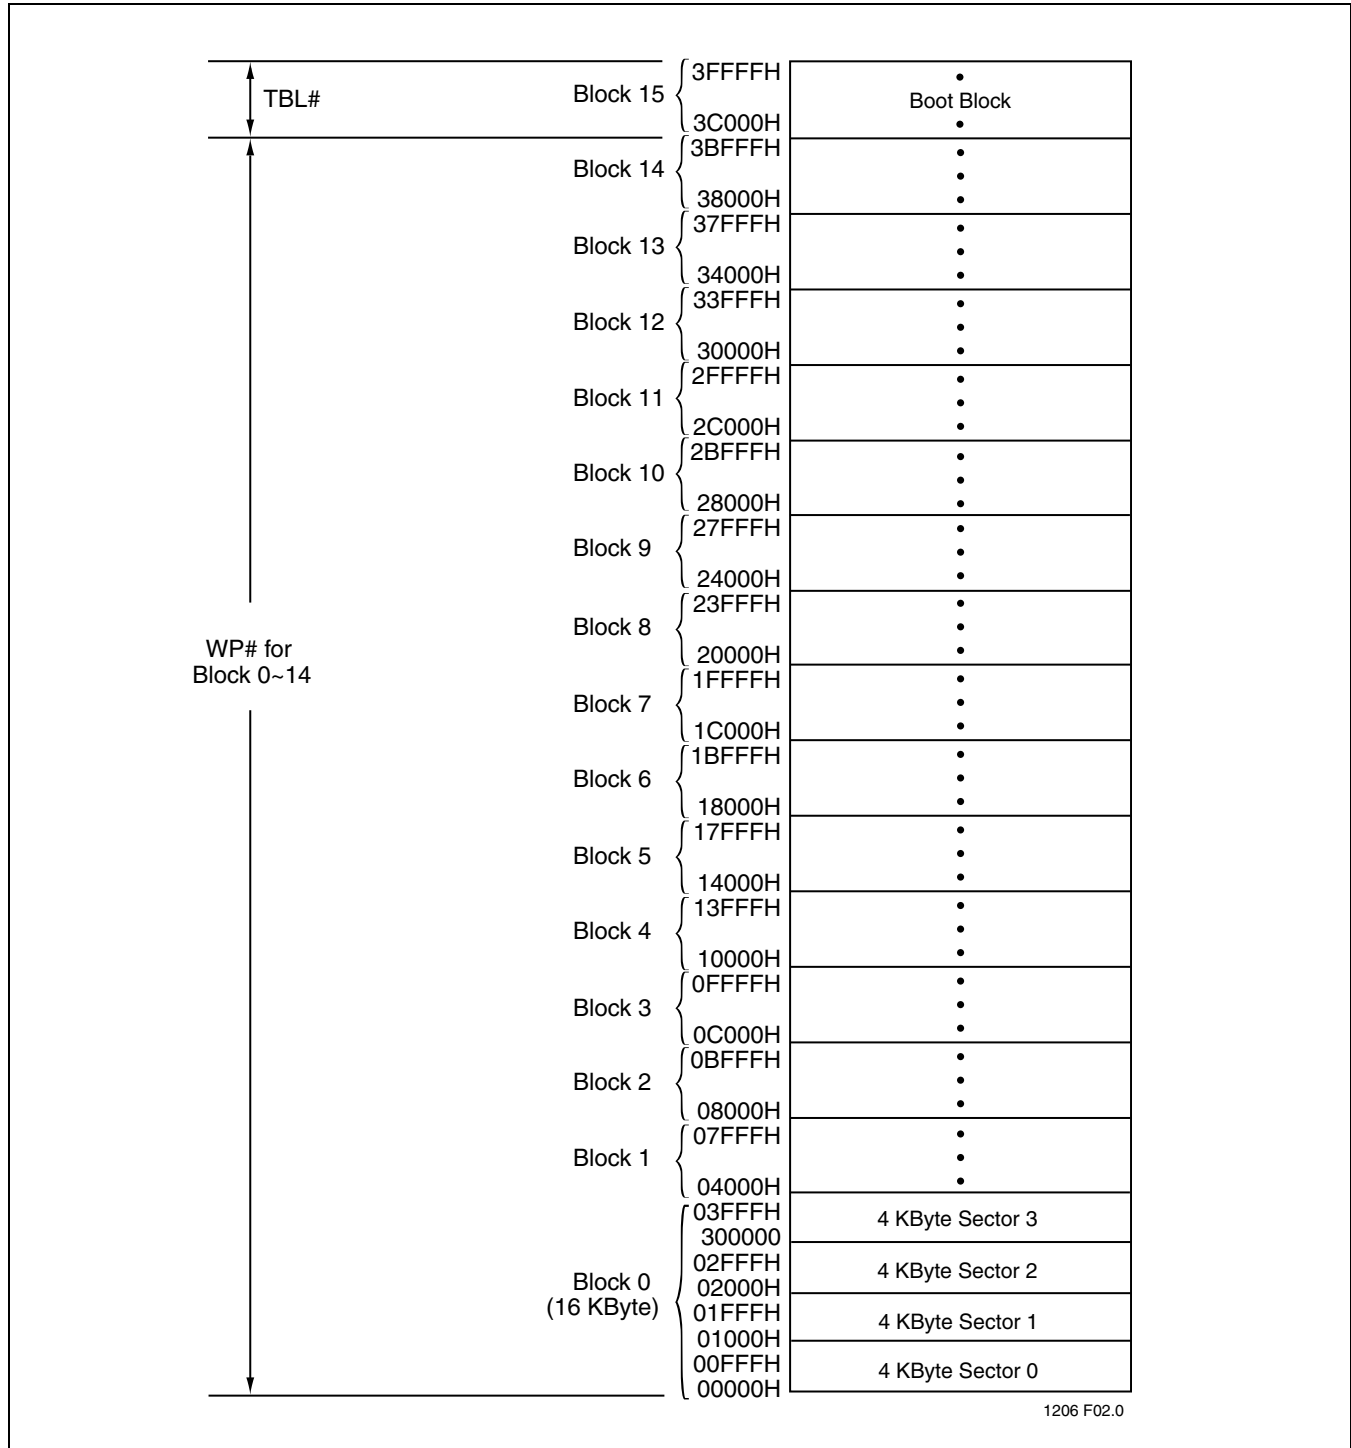

FIGURE 4: Device Memory Map
| FIGURE 4: Device Memory Map . . . . .  | 9  |
The SST49LF020A flash memory devices can operate in two distinct interface modes: the LPC mode and the Parallel Programming (PP) mode. The mode pin is used to set the interface mode selection. If the mode pin is set to logic High, the device is in PP mode. If the mode pin is set Low, the device is in the LPC mode. The mode selection pin must be configured prior to device operation. The mode pin is internally pulled down if the pin is left unconnected. In LPC mode, the device is configured to its host using standard LPC interface protocol. Communication between Host and the SST49LF020A occurs via the 4-bit I/O communication signals, LAD [3:0] and LFRAME#. In PP mode, the device is programmed via an 11-bit address and an 8-bit data I/O parallel signals. The address inputs are multiplexed in row and column selected by control signal R/C# pin. The row addresses are mapped to the lower internal addresses ( $A_{10-0}$ ), and the column addresses are mapped to the higher internal addresses ( $A_{\text{MS}-11}$ ). See Figure 4, the Device Memory Map, for address assignments.